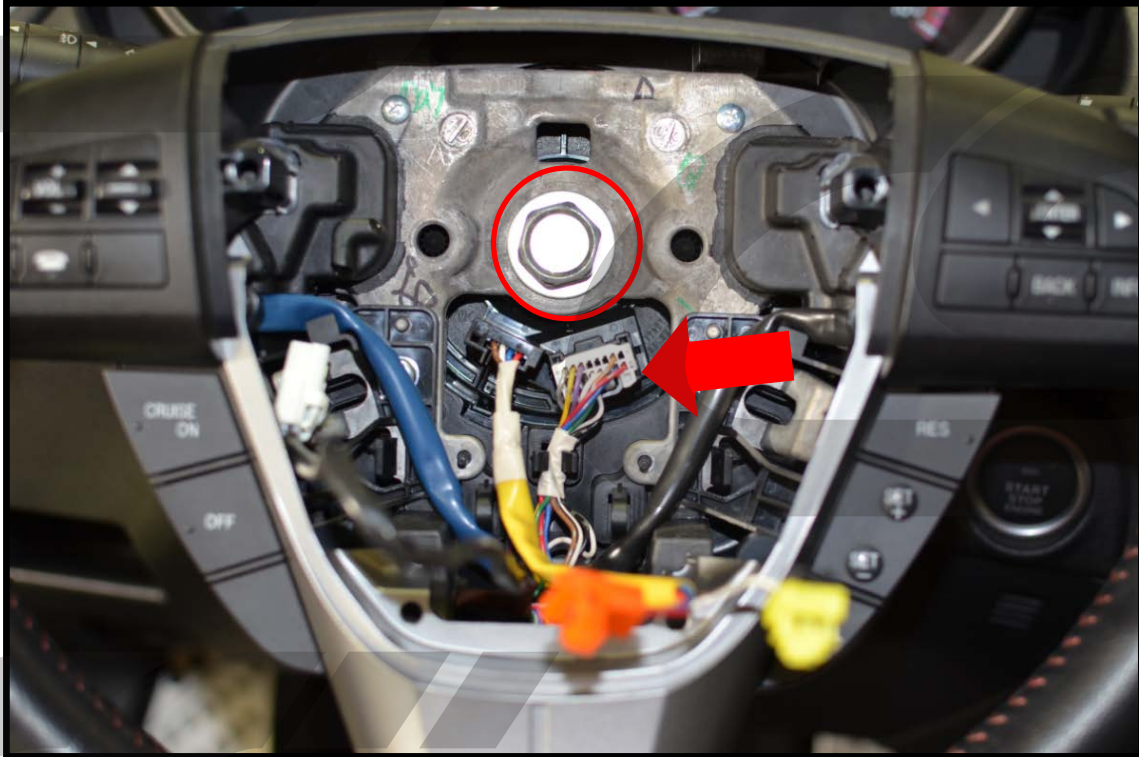

Figure 2a
- a) **Remove the steering wheel.** Disconnect the only the white electrical connection shown with the **red arrow**. With a 21mm socket, long extension, and ratchet wrench remove the bolt holding the steering wheel. Shown with the **red circle** in **Figure 2a**.